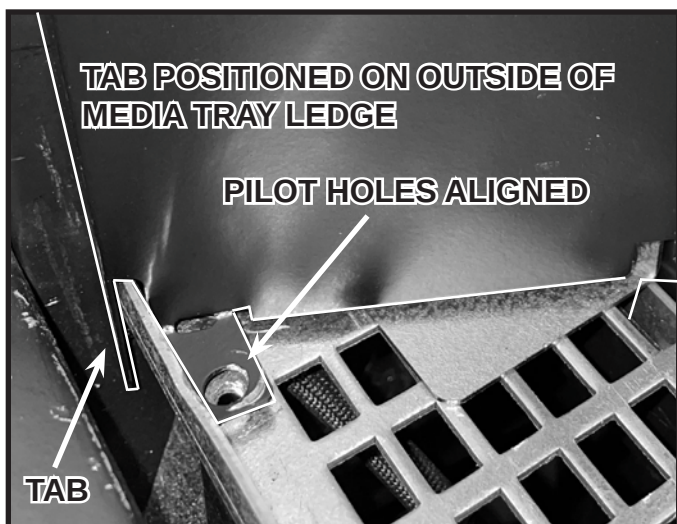

Figure 11.20 Transition Panel Tab Position
3. Install transition panels on left and right sides of appliance opening. Align the bottom of the panel with the pilot hole on the appliance and ensure the tab is on the outside of the media tray ledge as shown in Figure 11.20. Install bottom screw. Tilt the top into position and install the top screw. See Figure 11.21.